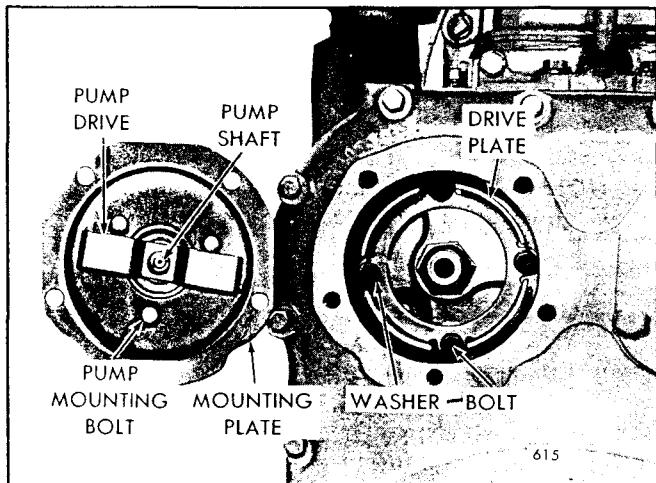

Fig. 11 - Pump Drive Plate Mounting
bearings and a seal, pressed into the pump bearing retainer, prevents leakage. The pump is attached to the flywheel housing and is driven by a drive plate bolted to the camshaft or balance shaft gear (Fig. 11).
4. Remove the five bolts and lock washers securing the charging pump and mounting plate assembly to the flywheel housing (Fig. 11). Then remove the pump and mounting plate assembly. Remove the mounting plate gasket.